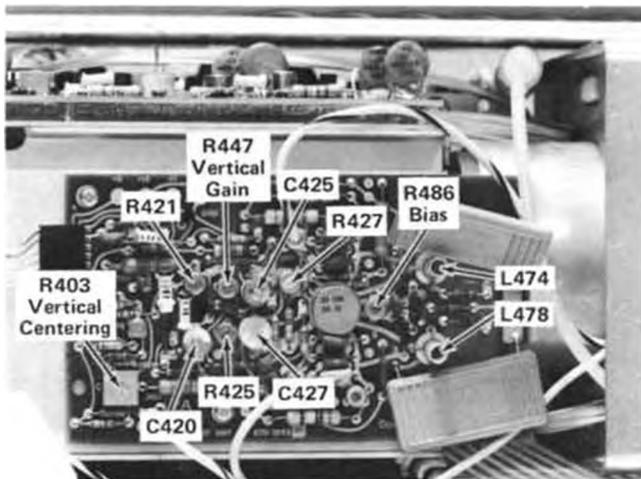

Fig. 2-3. Location of Vertical System adjustments (Vertical Output board).
- d. ADJUST—Bias R486 for maximum gain. (See Fig. 2-3.)
- c. ADJUST—Vertical Centering adjustment R403 (see Fig. 2-3) to position the trace to the center horizontal line.
- d. ADJUST—Vertical Gain adjustment R447 (see Fig. 2-3) for exactly six divisions of deflection between the second and sixth traces.
d. Adjust--High-frequency compensation as given in Table 2-2 for optimum square leading corner and flat top with minimum aberrations within limits given in part c. Location of adjustments is shown in Fig. 2-3. Use the low capacitance screwdriver to adjust the variable capacitors. Repeat the complete adjustment procedure several times to obtain optimum adjustment.